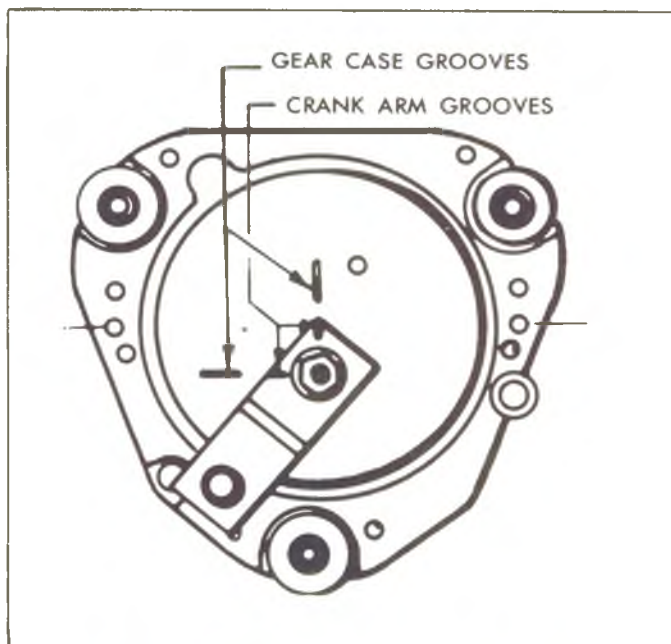

Fig. 42--Wiper Motor Crank Arm in Park Position
2. Place wiper in park position and install crank arm on output shaft, rotate crank so alignment marks line up with those on cover (fig. 42).